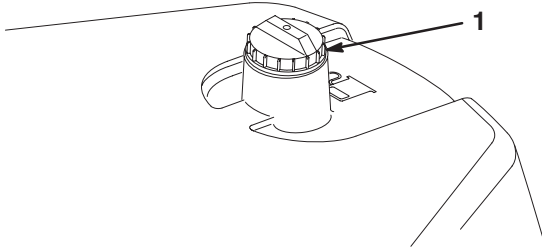

Figure 24
1. Clean the area around the fuel tank cap (Fig. 24).